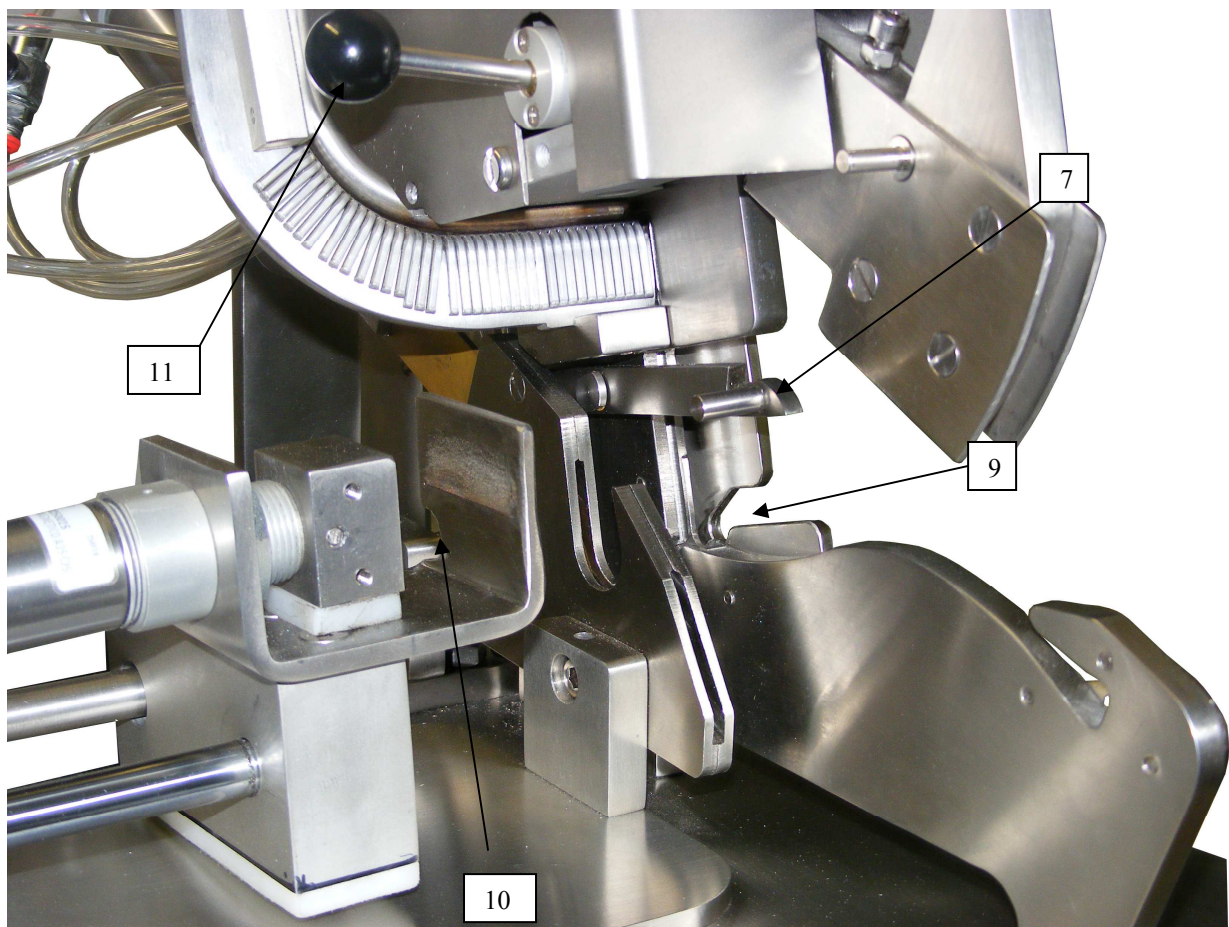

Fig. 2
- Slide the empty casing through the right slot (9 – Fig.2 ), of the clipping area, through the blade slot and finally through the locking clamp (10).
- Remember the pressure of the press can be adjusted at your own discretion with the knob (3).
- Once obtained the required press, push down the valve (11) to clip. Together with this action the machine will actuate the pneumatic blade and will cut the remaining casing.